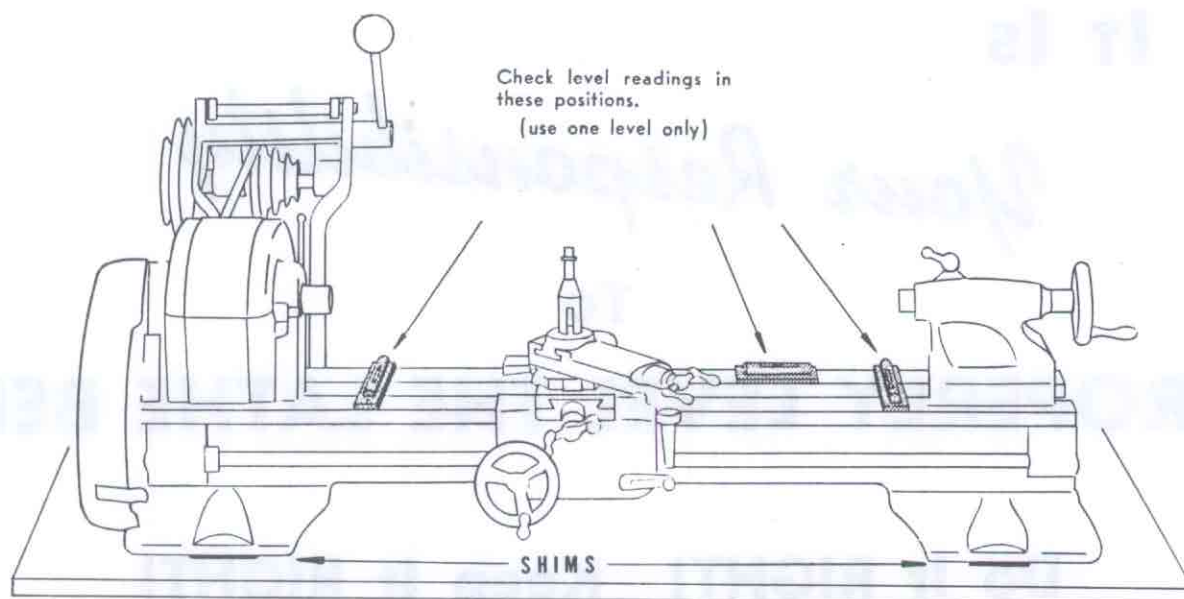

FIGURE 1, Positions for checking level readings
1. Using only a precision machinists spirit level, check level readings at the positions shown in Figure 1 above. A VERY SENSITIVE LEVEL MUST BE USED. A sensitive level should move the bubble approximately 1/8" when a .003" shim is placed under one end of lathe.